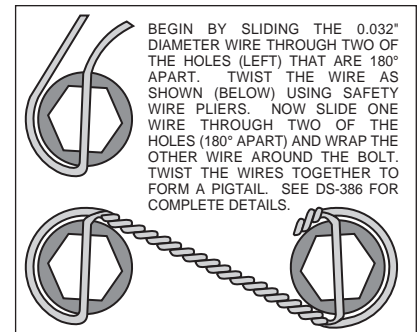

Figure 6. Safety Wire Diagram
•Bolt the hat (2) to the rotor (3) using washers (4) and bolts (5). Torque bolts (5) to 180 **in-lb**. Safety wire bolts (5) using standard 0.032 inch diameter stainless steel safety wire as shown in Figure 6. Please refer to Wilwood's data sheet DS-386 for complete safety wire installation instructions.
•Align the correct hole pattern in the hat (2) with the stud pattern on the axle flange. **NOTE:** Some OEM and after market axles come with stud sizes larger than 0.50" diameter. Verify stud size and have a qualified machine shop drill the hats to the correct size. Slide the hat/rotor assembly (2 and 3) over the wheel studs and against the axle flange face.
•**NOTE:** Please reference the caution statement at the beginning of the assembly instructions. WITH THE BLEED SCREWS POINTING UP, mount the caliper (6) over the rotor (3) and onto the caliper mounting bracket (1) using washers (7) and mounting bolts (8). View the rotor through the top opening of the caliper. The rotor should be aligned in the center of the caliper. If not, adjust the caliper by using 0.032 inch shim washers (9), placing them between the caliper mounting bracket (1) and the caliper (6). Apply red *Loctite*® 271 to the mounting bolt threads (8), torque bolts to 30 ft-lb. Safety wire the caliper mounting bolts (8).
•Position the Wilwood disc brake pads (10) into the caliper (6) and fasten with cotter pin (11). Steel backing plate side of brake pad should face the caliper pistons.